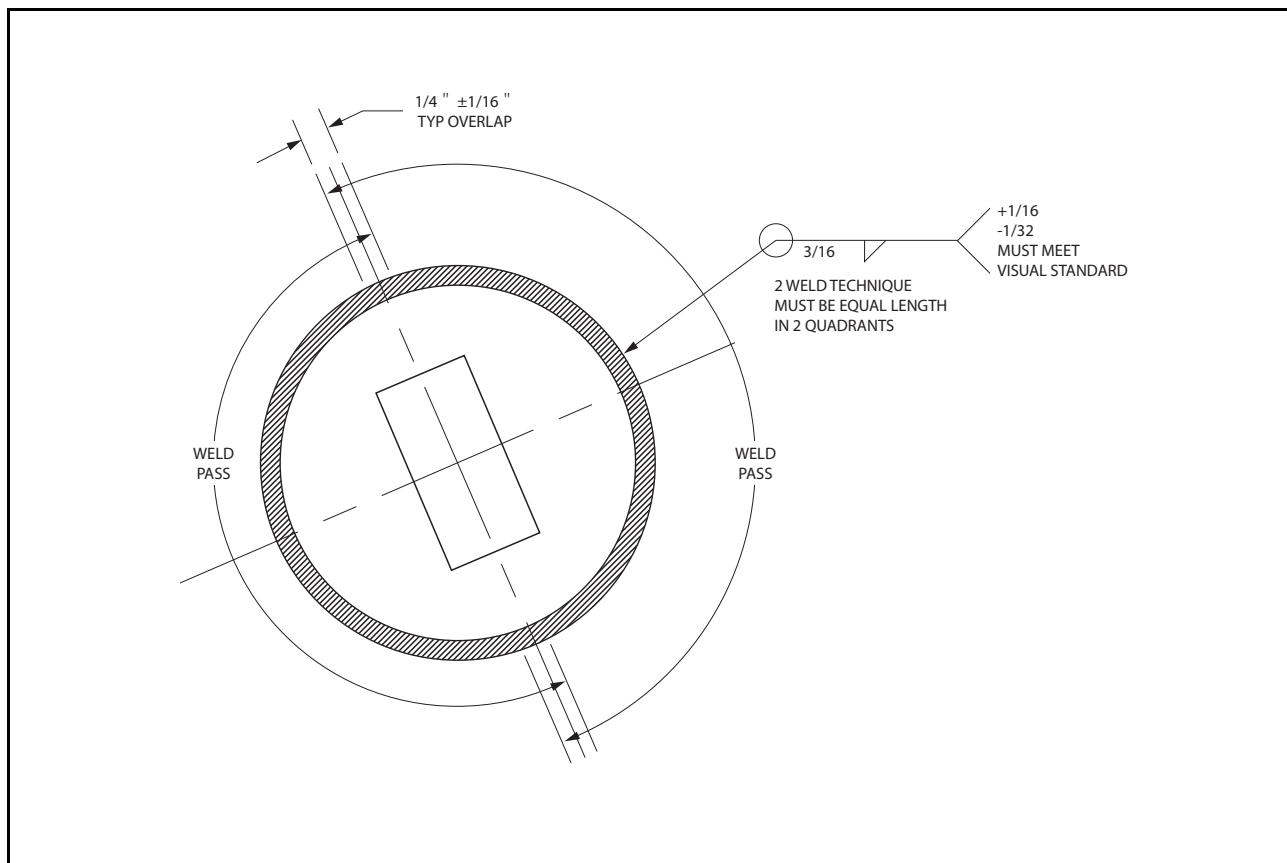

Figure 5-37 Placement of Timing Jigs on Dual Drives
18. Finish welding the four corner arm brackets using a two-pass, equal-length weld technique (Figure 5-37).